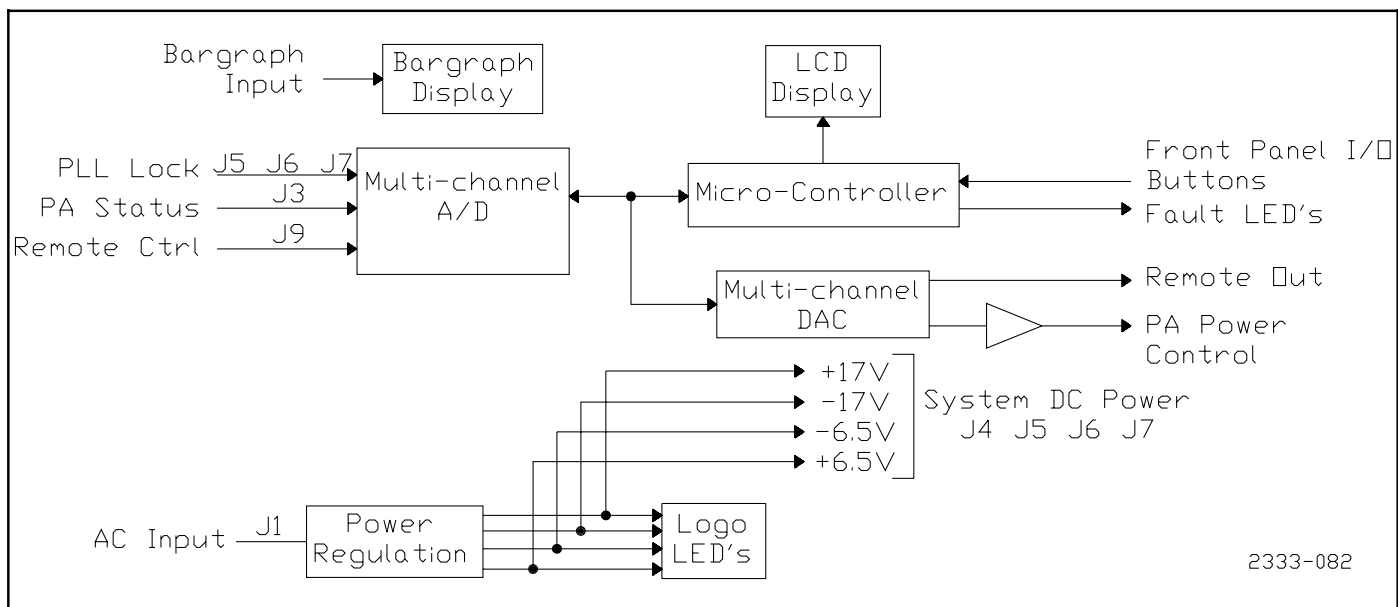

Figure 4-12. Regulator Board Block Diagram
The block diagram for the Regulator Board is shown in Figure 4-12. The Regulator board handles the system power distribution and metering requirements of the exciter. It also controls the power amplifier (PA), and responds to any fault conditions. The microcontroller based sense and control architecture allows for system changes in software and future upgrades.